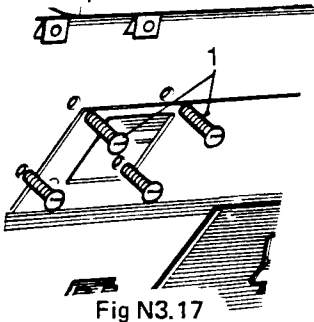

Fig N3.17
- (4) Refer to Fig N3.17. Still inside the cab, remove the blower motor fixings (1).
- (1) Place the motor in position.
- (2) Fit the air inlet seal and replace the intake grille (see Sub-section N3, Chapter 9).
- (3) Replace the wing panel rear top fixing bolt.
- (4) Reconnect the air hose to the matrix inlet.
- (5) In the cab, replace the blower motor fixings ((1) on Fig N3.17).
- (6) Restick the trim to the bulkhead panel.
- (7) Back in the engine compartment, reconnect the blower motor leads: The brown lead with the green marker band connects to the green/slate lead. The green lead connects to the green/yellow lead.
- (8) Reconnect the battery earth lead.